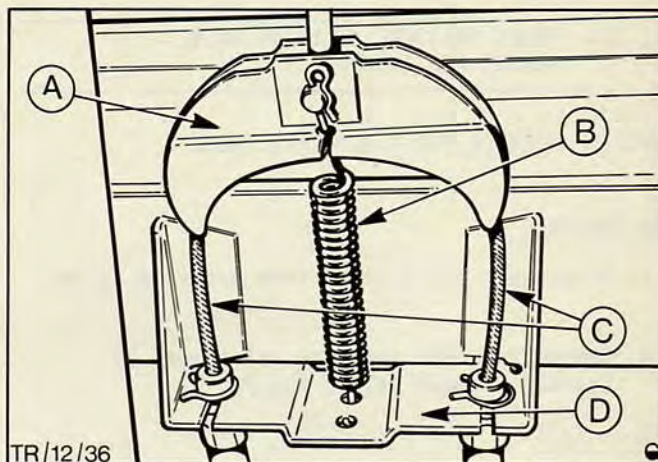

Fig.69. Disconnect equaliser from spring and primary rod.
2. Remove spring clip and clevis pin from primary rod to equaliser. Remove return spring from equaliser, Fig.69.